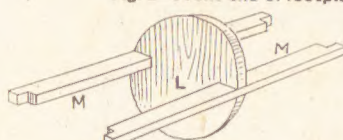

Fig. 5—Boiler framework
For the boiler we need three discs as (L) on the pattern page. Cut these out carefully and note the two notches in each disc which are to fit into corresponding recesses in piece (M), two of which are required as outlined on the pattern sheet. In Fig. 5 is shown the method of gluing up the pieces to form the framework, as it were, of the boiler. Only the middle disc is shown here, the end ones will be similarly treated.